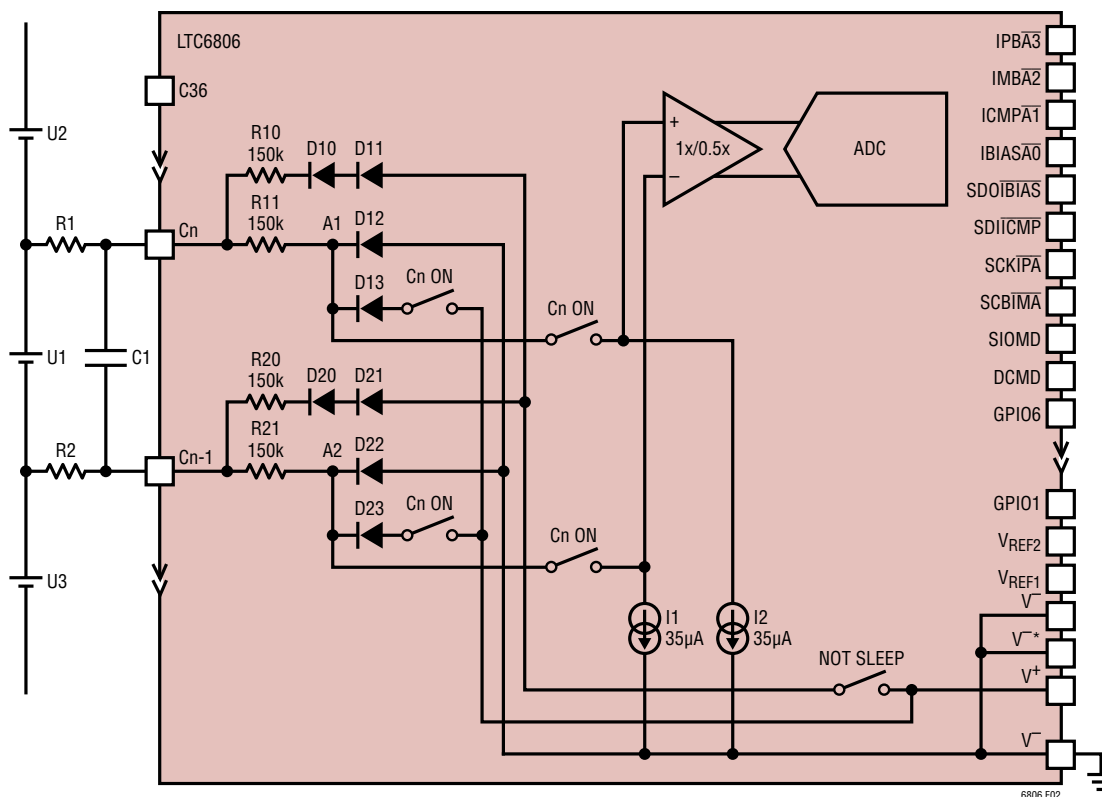

Figure 2. Input Stage Conceptual Block Diagram
The input stage of the LTC6806 consists of a common-gate stage with 150k Ω series resistance leading to the cell input pins. To accommodate negative common mode measurement, various clamp circuits are implemented at the front end, as shown in Figure 2.
1. When a cell is being measured, all switches in Figure 2 are closed. If the cell common mode voltage is above V^+ , all diodes are reverse biased and the cell input sinks approximately 35 μ A bias current. If the cell common